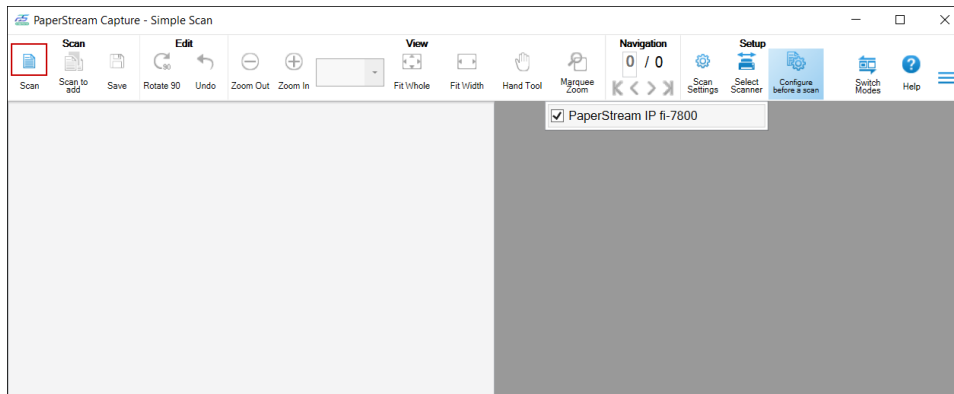

Figure 5-3. PaperStream Capture - Selecting scanner model
2. Ensure that your scanner is selected by clicking **Select Scanner** and selecting your model if necessary (Figure 5-3).
3. In the PaperStream Capture-Simple Scan dialog, click the **Scan** button in the tool bar (Figure 5-3).